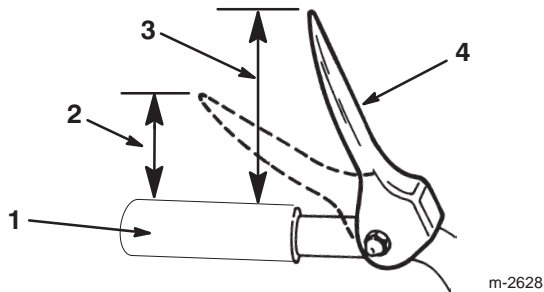

Figure 10
5. Check the distance between the top of the handgrip and the bottom of the auger/impeller drive control lever. The distance should be approximately 4 inches (10.2 centimeters) as shown in Figure 10.
Note: The amount of force needed to compress the lever increases noticeably when you remove the slack from the auger/impeller drive belt (approximately one-half of the lever movement). The adjustment is correct when the force **begins** to increase and the distance between the top of the handgrip and the bottom of the auger/impeller drive control lever is 2 inches (5 centimeters) as shown in Figure 10.